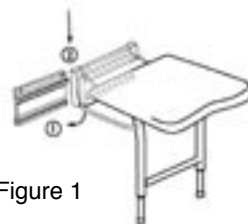

Figure 1
- Unscrew the 2 screws which are located under the fixing plate. Hold this plate and then take it off the seat (see figure 1)